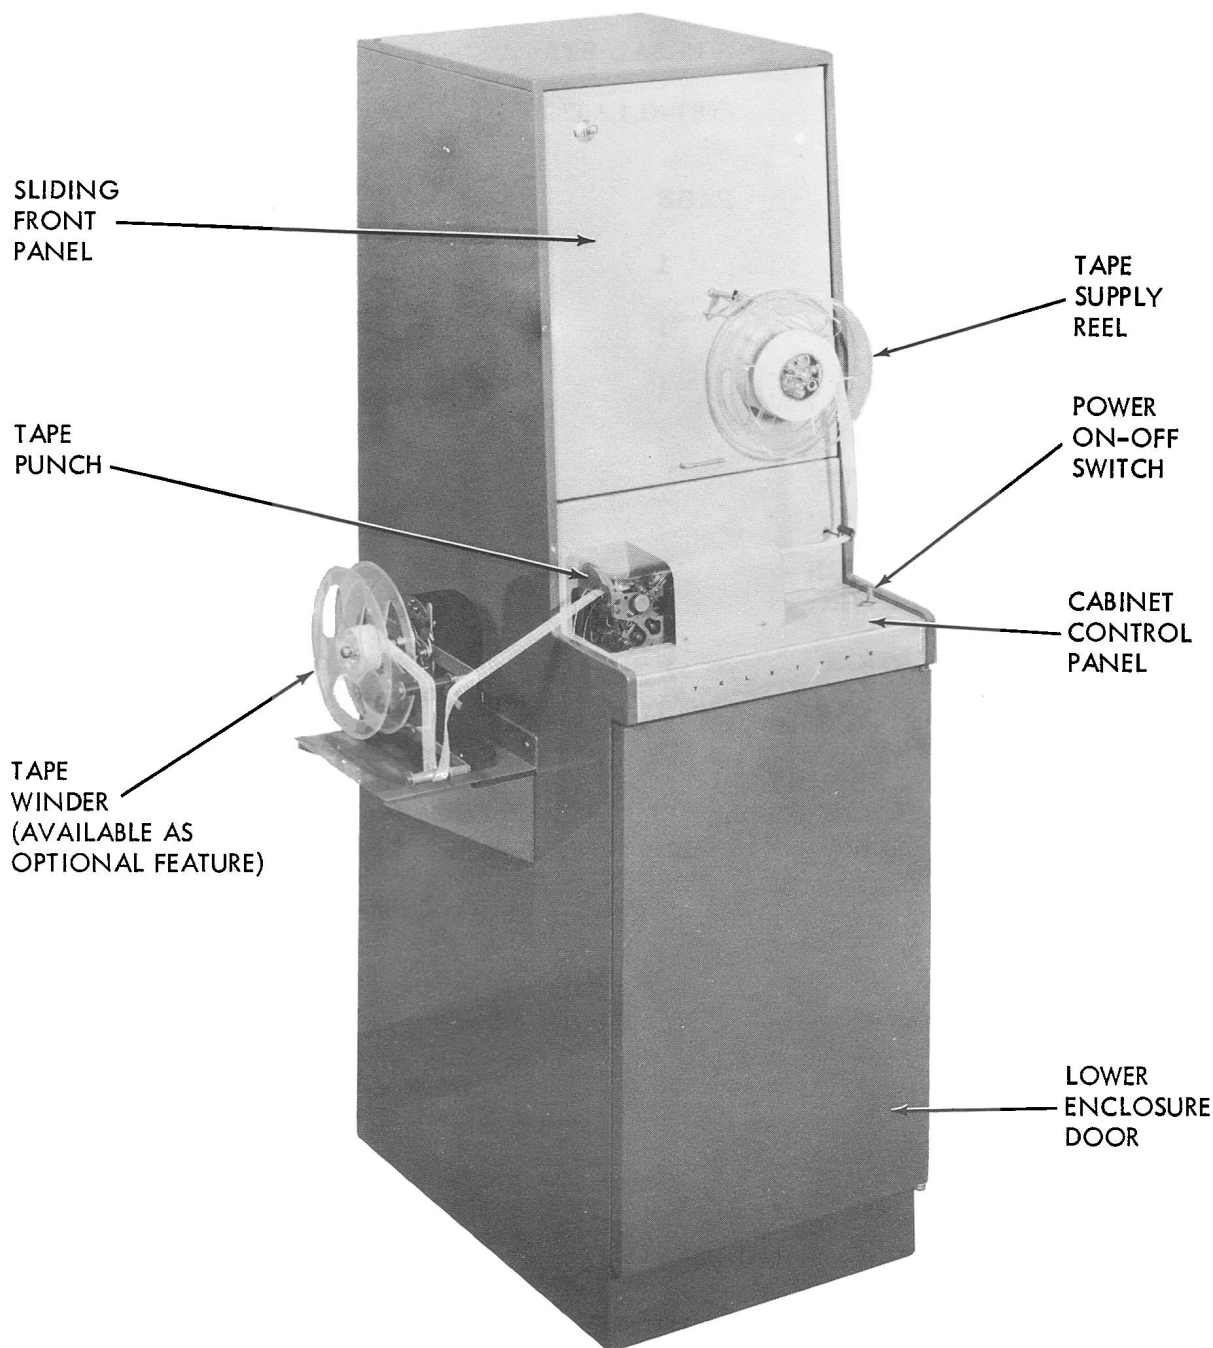

Figure 1 - 8- to 5-Level Signal-to-Tape Station Converter Set, Front View
1.02 The 5 to 8-Level Signal-to-Tape and 5 to 8-Level Tape-to-Tape Station Converter Sets consist, basically, of the following electro-mechanical and electronic apparatus (see Figures 1 and 2).